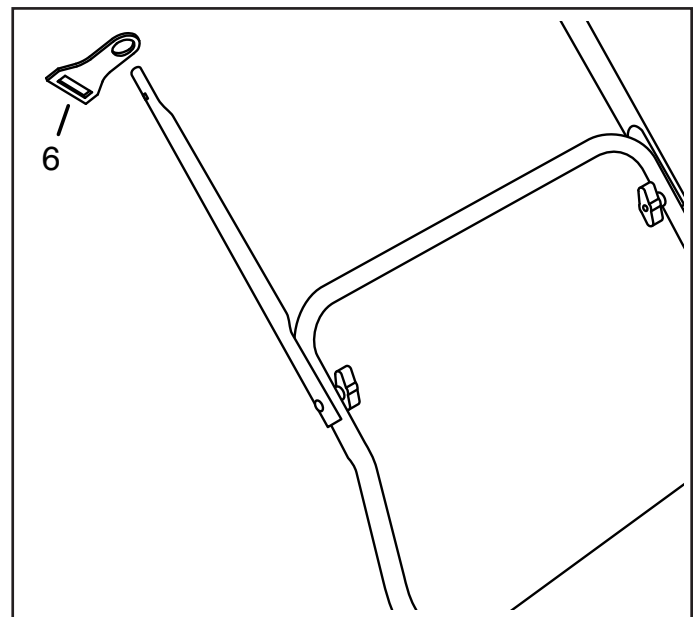

FIGURE 4
STEP 4: (SEE FIGURE 4)
- Slide the cord holder (6) onto the right middle handle tube.